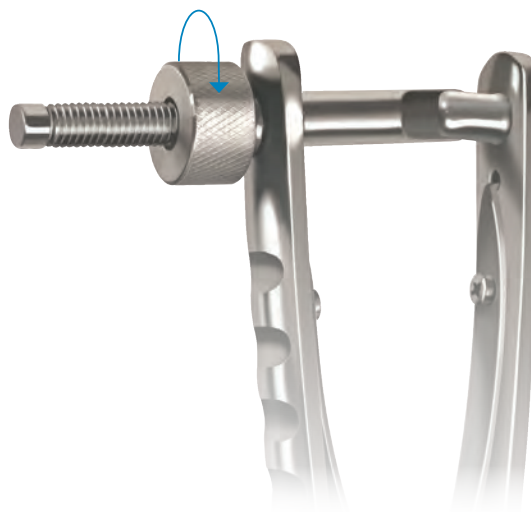

Figure 14
- Once the tips are positioned, the adjuster knob must be fully tightened to secure the implant to the inserter. When the adjuster knob is fully tightened, no threads should be visible between the handles (**Figure 14**).